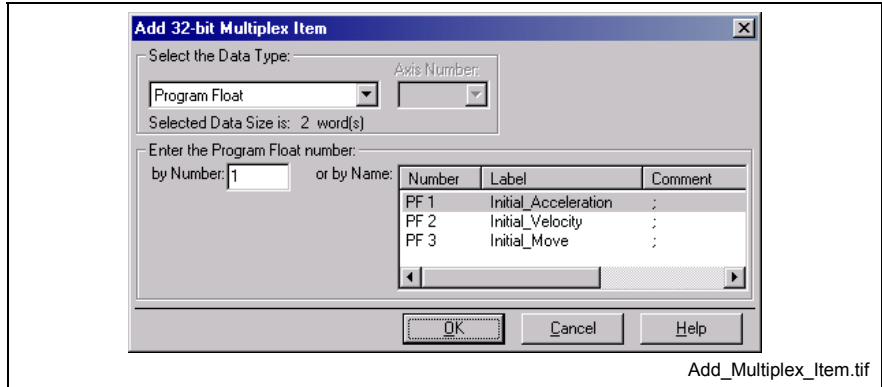

Fig. 7-106: Select Data Type for Multiplex Item
3. To add to the selected multiplex container, click **No**. The window in Fig. 7-106 below is an example for adding a 32-bit multiplex item.